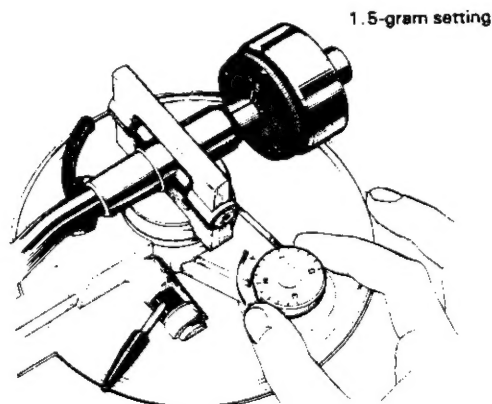

Fig. 10
2. Confirm that the anti-skating dial is set to "0" (Fig. 10) and the cueing lever is DOWN (▼).